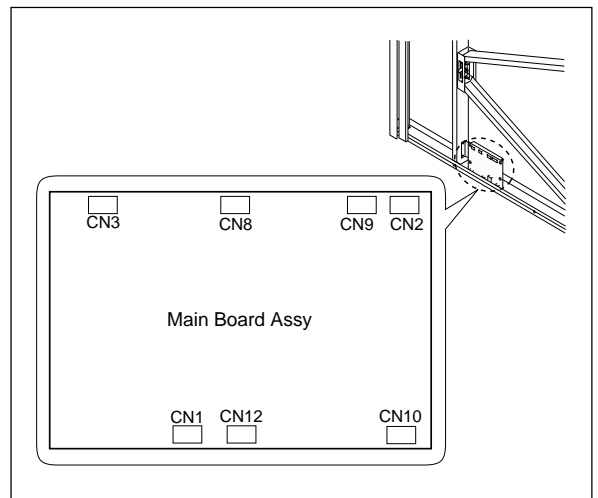

Fig. 3
2) Remove the Main Board Assy. (See Figs. 3 and 4.)
1. Disconnect the connectors connected to the Main Board Assy shown in Fig. 3.